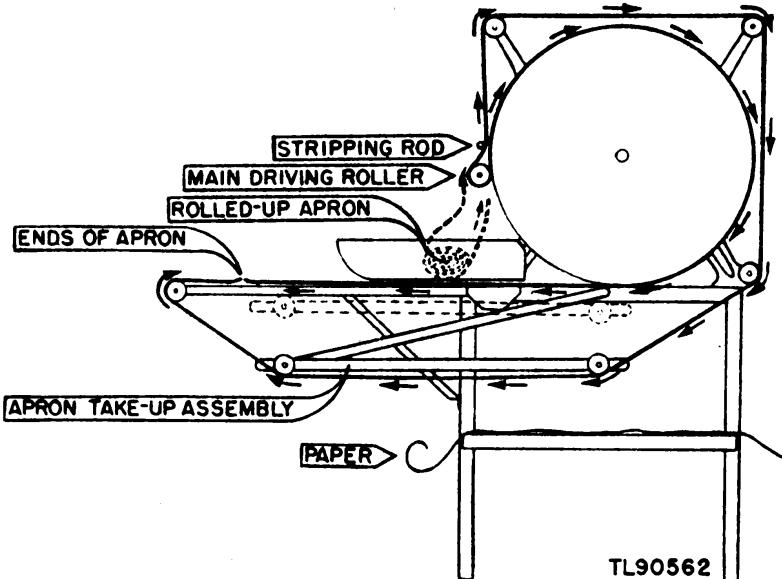

Figure 12. Apron installation.
b. **Reassembly.** (1) Place a large piece of paper on the integral stays between the legs to avoid soiling the new apron. Raise the apron take-up assembly to the position indicated by dotted lines in figure 12, and tie it to the feeding table arm. Place the new, rolled-up apron in the print tray.
(2) Draw the free end of the apron under the main driving roller assembly and over and around the drum assembly with the canvas
duck side of the apron towards the drum. Bring this end above the take-up rollers to the position shown in figure 12.